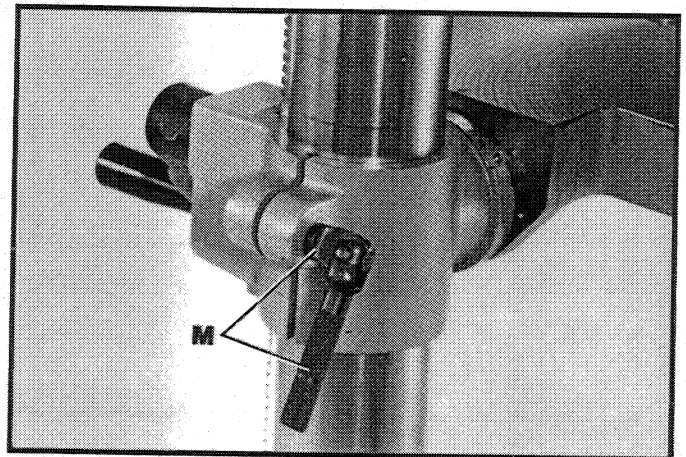

Fig. 12
8. Thread table clamp (M) Fig. 12, into hole in rear of table bracket, as shown.